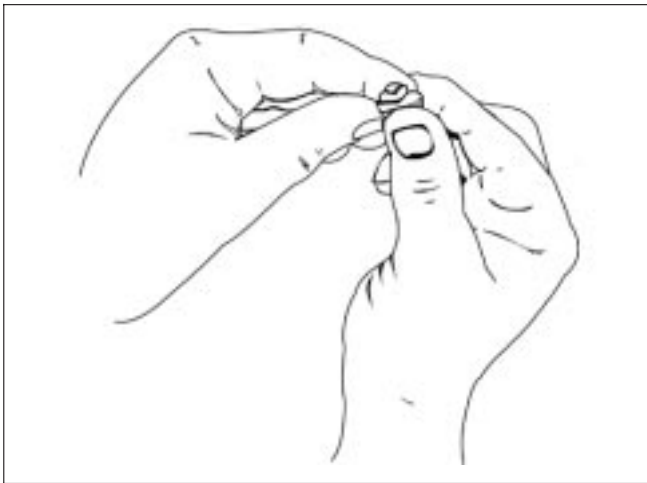

Figure 1-10. Squeezing Excess Oil From Air Filter Element. 3.6078.010
4. Squeeze the air filter to ensure that the oil is spread throughout the entire filter (Figure 1-10).